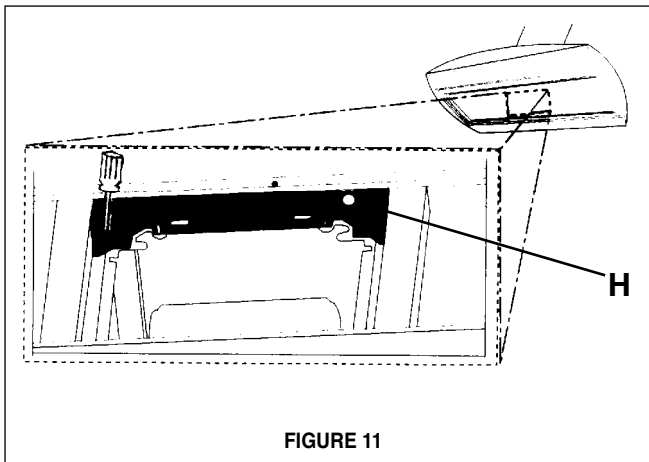
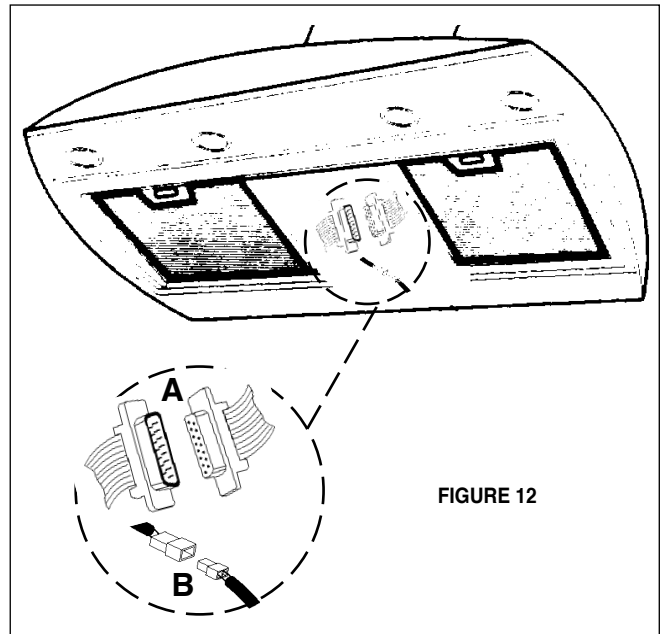

FIGURE 11
FIGURE 12
5. Remove the metal brackets located on the top and bottom of the underside of the rangehood by removing the screws (FIGURE 11). Removing these brackets provides access to the control and lighting cables which must connect to the control and lighting cables from the inside of the chimney (FIGURE 12).
6. Run the control cable (A in FIGURE 12) from inside the chimney through the hole (H in FIGURE 11) in the appropriate bracket. Be sure to place the black rubber grommet around the cable inside the hole to protect the cable from being nicked by the metal hole. Connect the control cables together as indicated in FIGURE 12. Tuck them away under the brackets and reinstall the brackets. Repeat this process for the lighting cables (B in FIGURE 12).